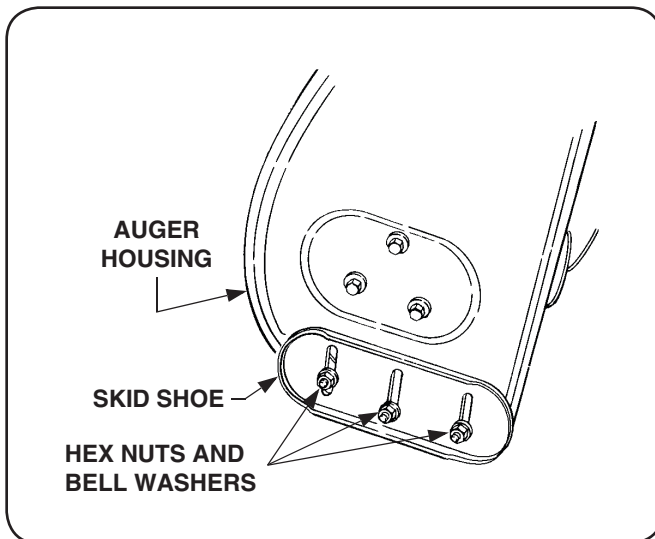

Figure 6-1
- Loosen the hex nuts and bell washers securing the skid shoes to the housing. Refer to Figure 6-1.